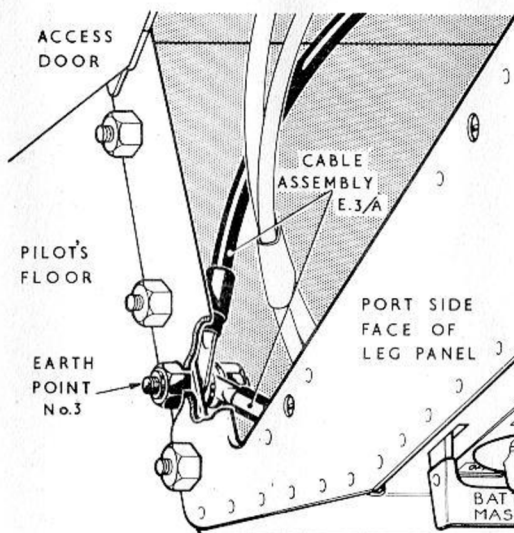

FIG. 3 EARTH POINT No. 3
- (5) Disconnect cable assembly E3/A from earth point 3, obtaining access via the hinged door in the port side of the leg panel (fig. 3).
- (6) Disconnect all the plugs and sockets on the cable assemblies at the leg panel. Seal off the plugs and sockets with approved caps and covers and stow the cable assemblies away from the panel.
- (7) Release the leg panel from its mountings by removing the nine bolts from around the bottom forward, and side faces of the panel. Remove the leg panel from the cabin, complete with cable assemblies F31 and E3/A.